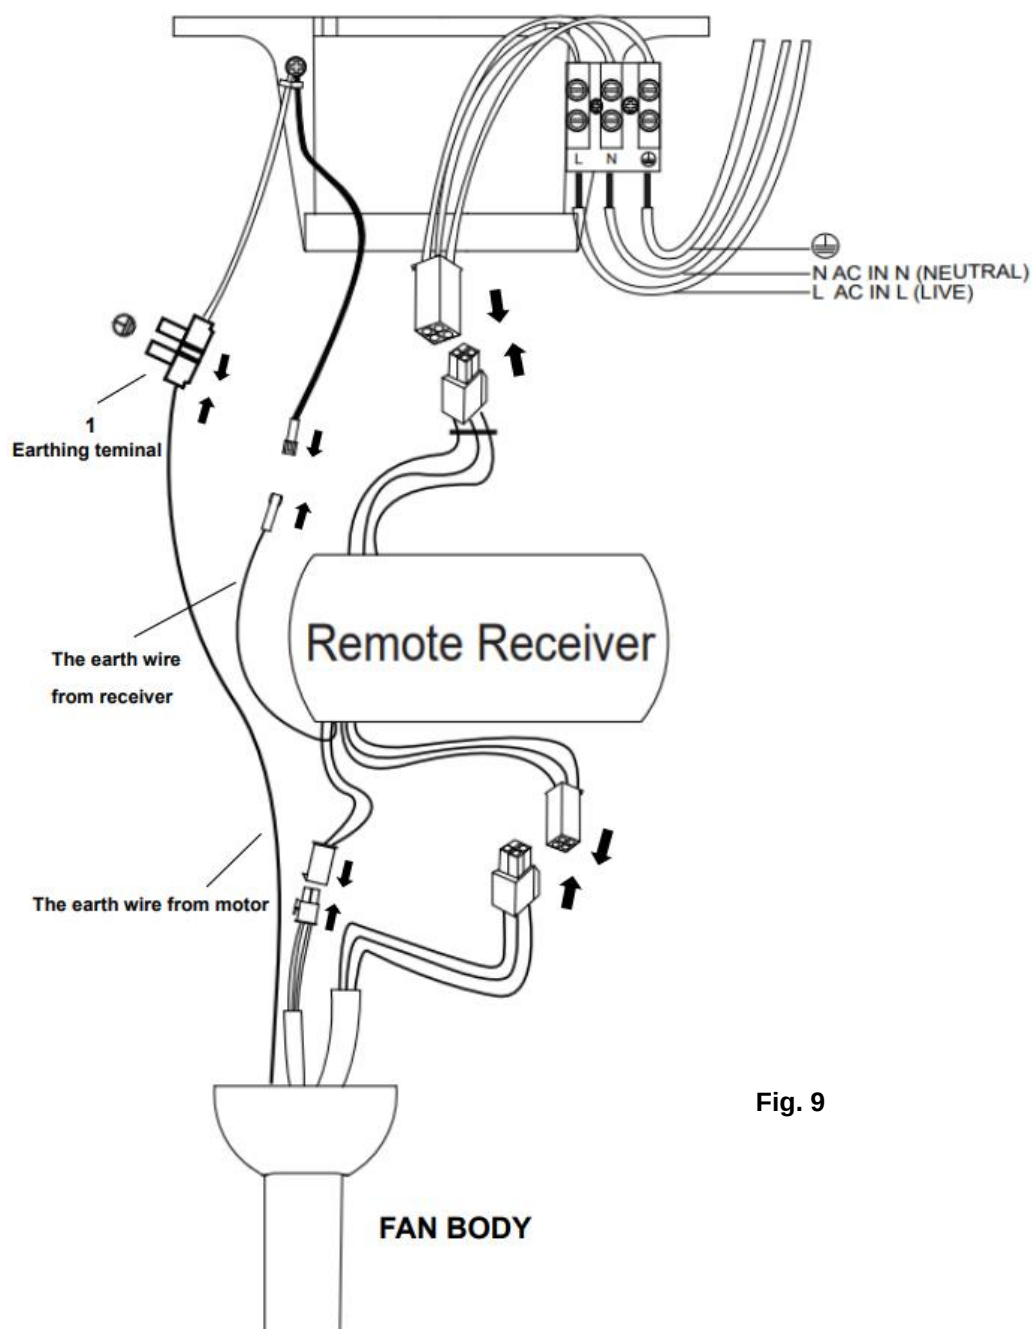

Fig. 9
ELECTRICAL WIRING DIAGRAM THE FAN**PREPARE AND COMPLETE THE ELECTRICAL WIRING --- WIRING DIAGRAM (FIG. 9)**
NOTE: Ensure the motor earth wire is connected to the single earthing terminal block “1” in the diagram below (Fig. 9).
From mains supply to mounting bracket terminal block: (Fig. 9)
4. Connect the motor earth wire to the single earthing terminal block “1” in the diagram below. (Fig. 9)